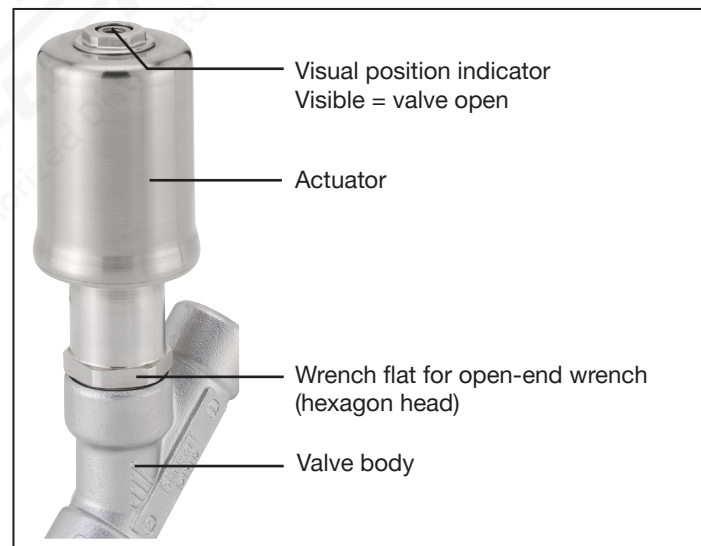

Figure 7: Disassemble actuator
- Use an open-end wrench (SW 22 for DN10; SW27 for DN15) to remove the actuator from the valve body in the open valve position (see “Figure 7”).